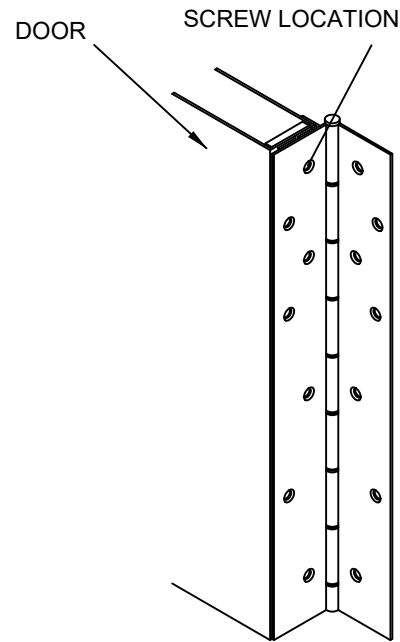

FIG. 3
2. Mark and center punch all the screw locations on the door with the hinge held firmly in place (FIG. 3)